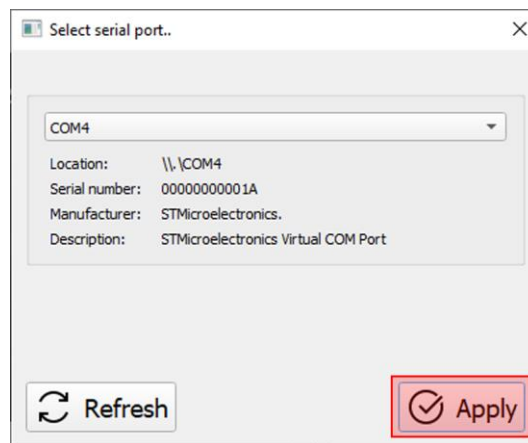

Figure 3.4 - Connecting the application to the device
3.7. After selecting the port, connect the device to the PC by clicking the **Connect button** (figure 3.4).